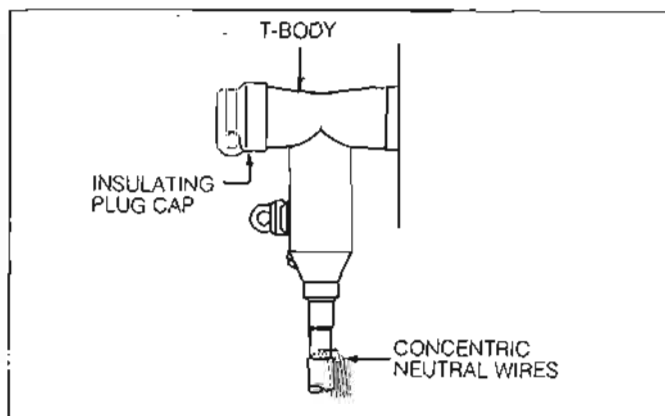

Figure 14.
- Clean and lubricate inner surface of insulating plug cap with lubricant supplied. (Refer to Figure 14.)